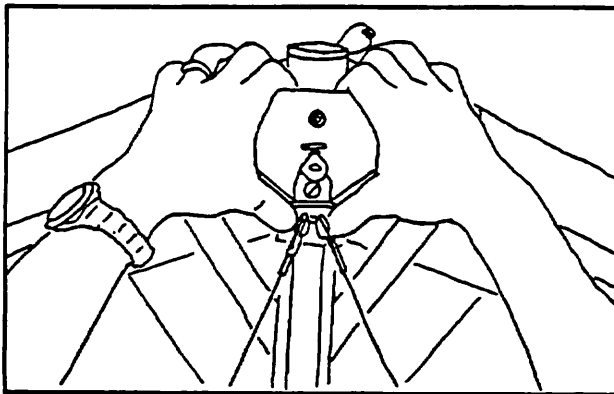

Figure 57
- 2) Disengage the keyhole tang safety. Detach the bottom nose wires by pulling down on the nose of the glider while pushing upwards on the plastic tang handle on the keyhole tang. (Figure 57)